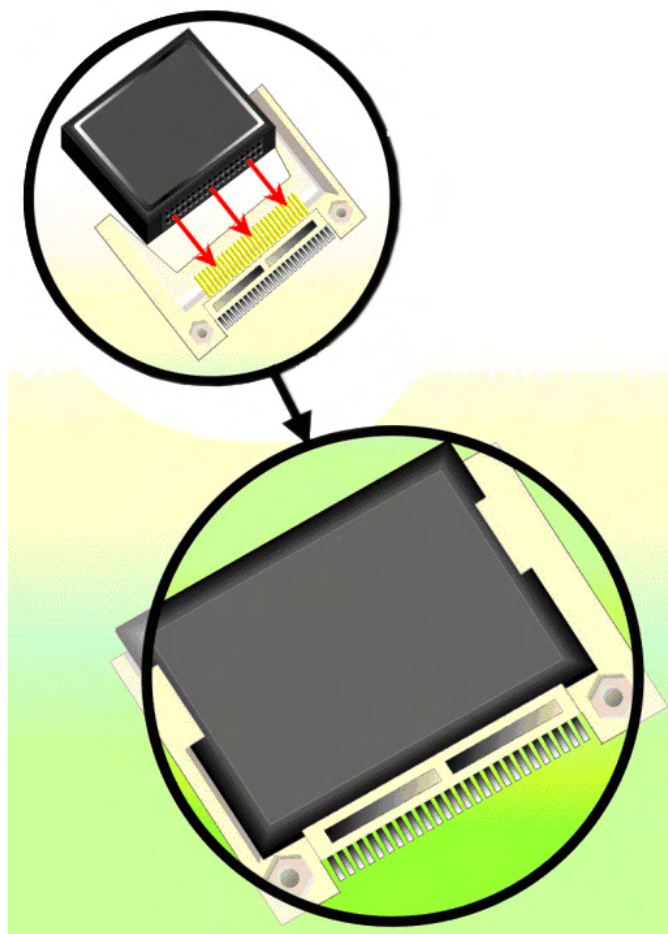

Figure 5-4: CF Card Installation
Step 3: Insert the CF card. Gently insert the CF card into the socket making sure the socket pins are properly inserted into the socket. See **Figure 5-4**.